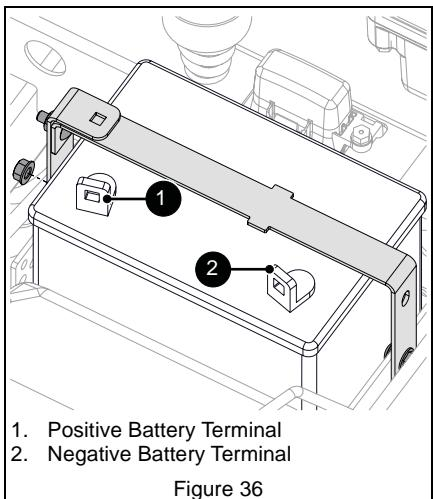

Figure 36
4. Install battery bracket over battery and onto bolts in battery tray. Secure with two flange nuts. See Figure 36.